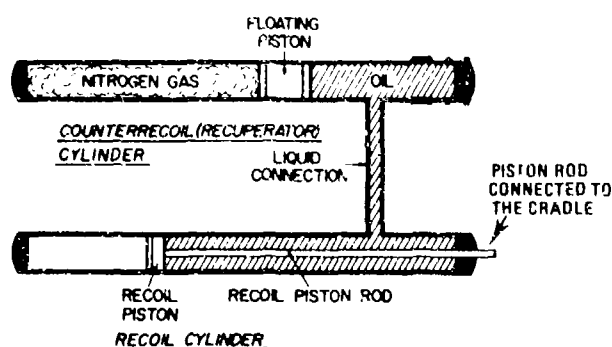

Figure 2-16. Dependent hydropneumatic recoil mechanism.
a. The basic type of recoil mechanism used on current field artillery weapons is the hydropneumatic mechanism (fig 2-16). "Hydro" indicates that the mechanism employs a liquid; the liquid used is recoil oil. Recoil oil is a petroleum-base hydraulic fluid. "Pneumatic" indicates that a gas is used. The gas used in these recoil mechanisms is nitrogen gas. When the weapon is fired, the recoil movement of the weapon is controlled by the flow of the recoil oil through certain throttling devices of the recoil system, the compression of the nitrogen gas in the recuperator cylinder, and the friction of the moving parts of the weapon. After the force of recoil has been absorbed by these three actions (throttling of the oil, compression of the nitrogen gas, and friction of the moving parts), recoil action ceases. The energy of the compressed nitrogen gas then causes the counterrecoil system of the weapon to move the tube back to the in-battery position.
the recoil and counterrecoil systems (fig 2-16). The oil flows from one cylinder to the other through the connection. Thus, the oil is common to both systems (recoil and counterrecoil), and each system is dependent on the other for its operation. This type of recoil mechanism is used on the light field artillery weapons.